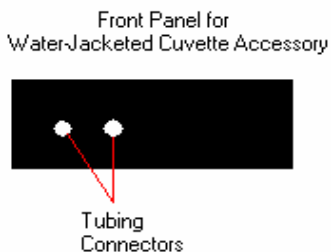

Figure-17 Front Panel for Water-Jacketed Cuvette Accessory
- Step 11 Connect Water bath to the front panel tubing connectors (Figure-17).